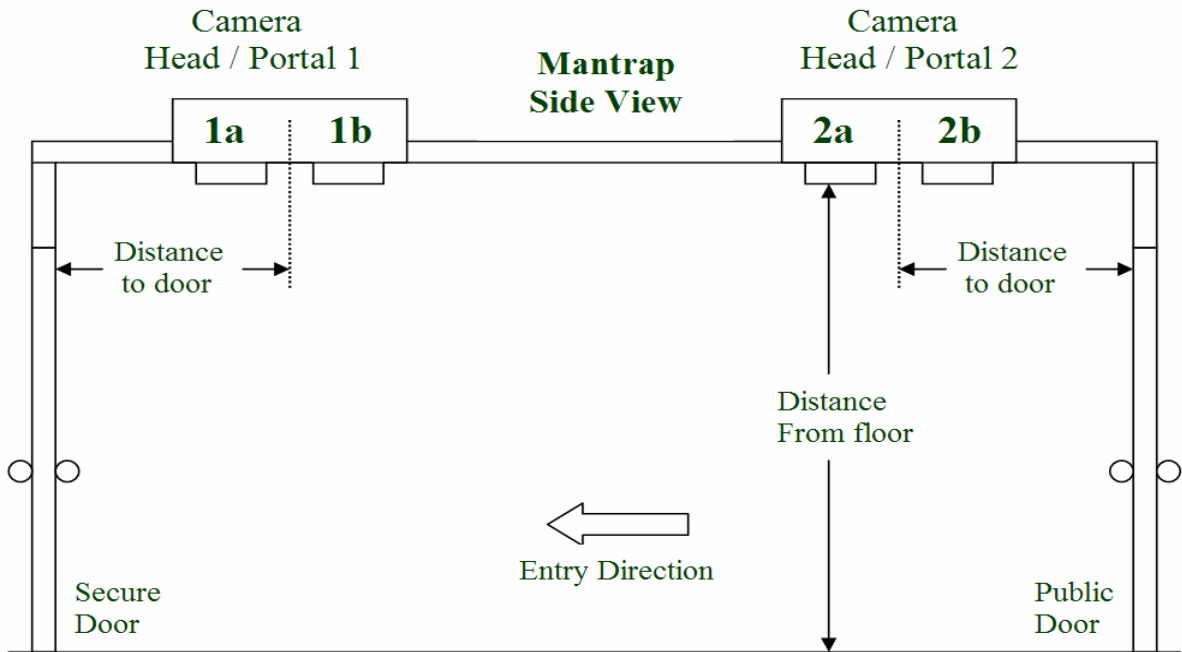

Figure 16 - Stereo Tracking Head Reference
Please see figure 16 for Installation Guide
1. Ensure that the stereo tracking heads are mounted at the correct locations according to the chart in Figure 16. Camera head 1 should be closest to the secure door and camera head 2 should be closest to the public door.
7. For both Camera Heads 1 and 2, ensure Camera a (1) is closest to the secure door and Camera b (2) is further from the secure door.